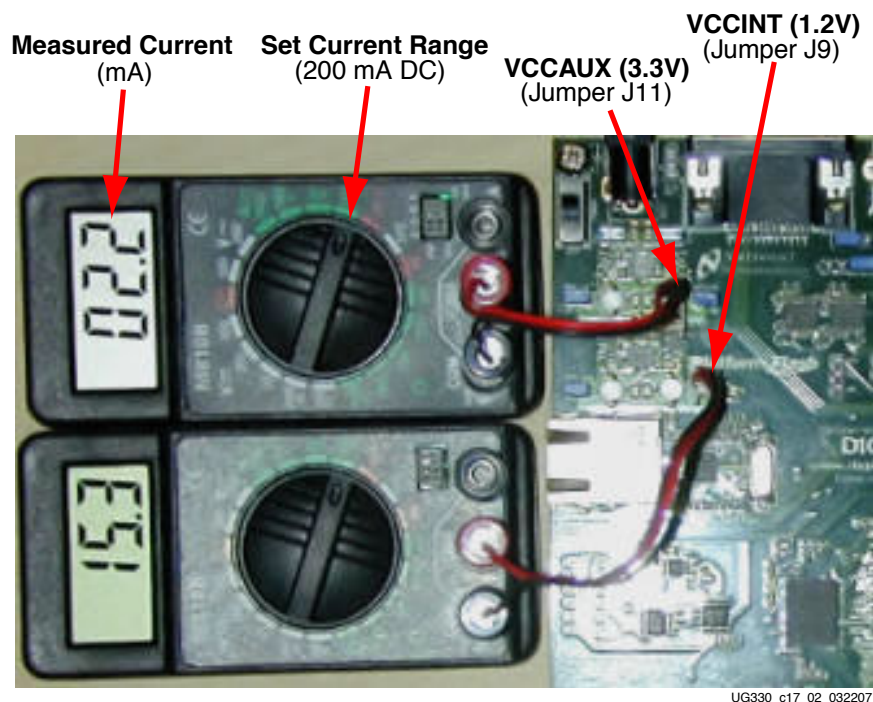

Figure 17-2: Measuring Current (Power) Using a Multimeter
- Connect a digital multimeter across the jumper, as highlighted in Figure 17-2. If the resulting current is negative, simply reverse the connections to the jumpers.